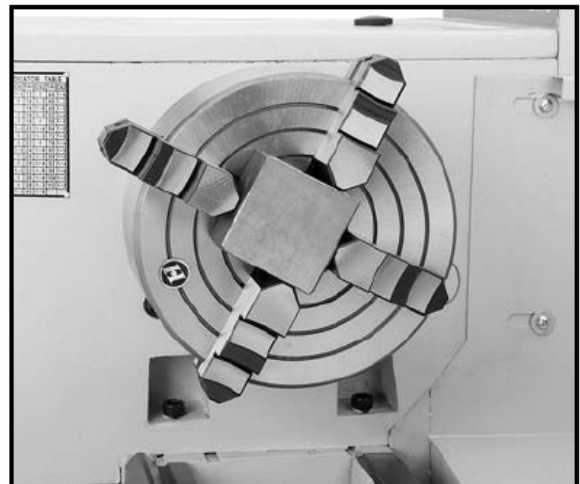

Figure 20
8. After the workpiece is held in place, back the tailstock away and rotate the chuck by hand. the center point will move if the workpiece is out of center (**see Figure 20**).